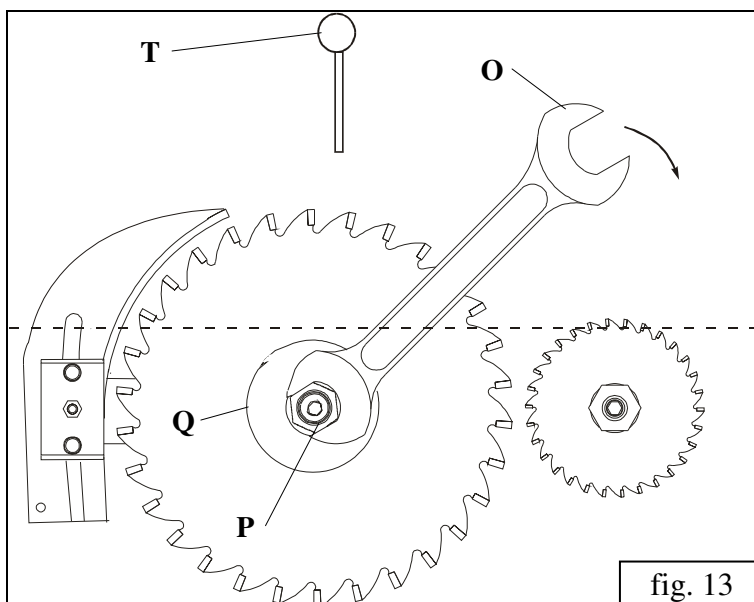

fig. 13
- Put the special wrench **T** (fig. 13) in hole over the shaft, and lock the spindle of circular saw.
- Unscrew the nut **P** by means of wrench **O** (S=36 mm) (fig. 13)